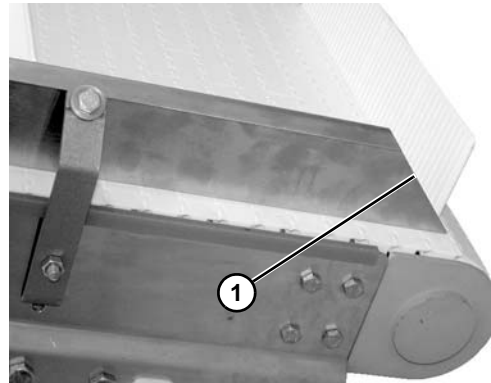

Figure 29
*When installing guides, be sure that the angled end of guide is installed on the idler end of conveyor (**Figure 29, item 1**).*